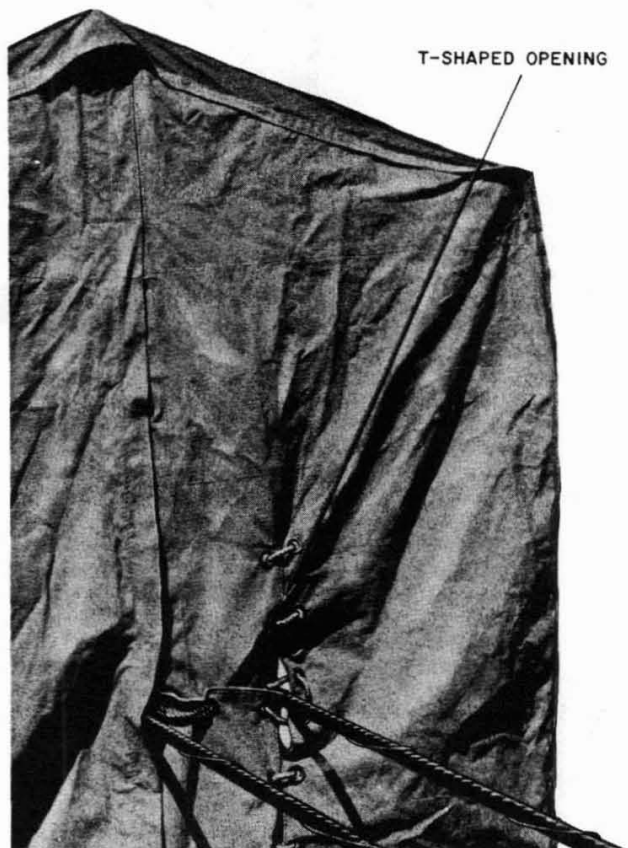

Fig. 2—Tent Mounted Showing Two Cables
2.03 The cover has a vertical opening on each side to accommodate aerial cable and to permit entrance and exit of workmen. The vertical openings may be closed securely with rope lacing. In addition, each vertical opening has a supplementary T-shaped opening to accommodate a second cable if two cables are supported on opposite sides of pole (Fig. 2).